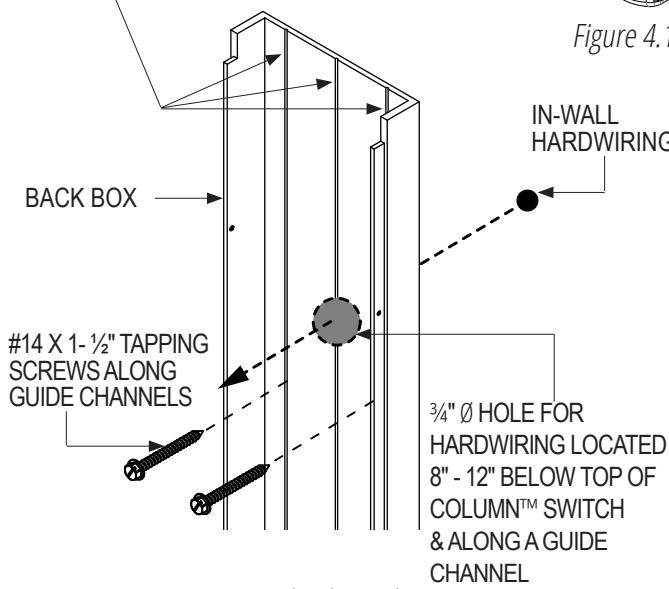

Figure 4.2 Guide Channels
6. Drill the mounting screw holes on the Back Box using drill bit 17/64" for either #14 tapping screws or 1/4"-20 machine screws. (Figure 4.2 and 4.3)
- Drill the $\frac{3}{4}$ " Ø hole on the Back Box for hardwiring connection. (Figure 4.2 and 4.3)